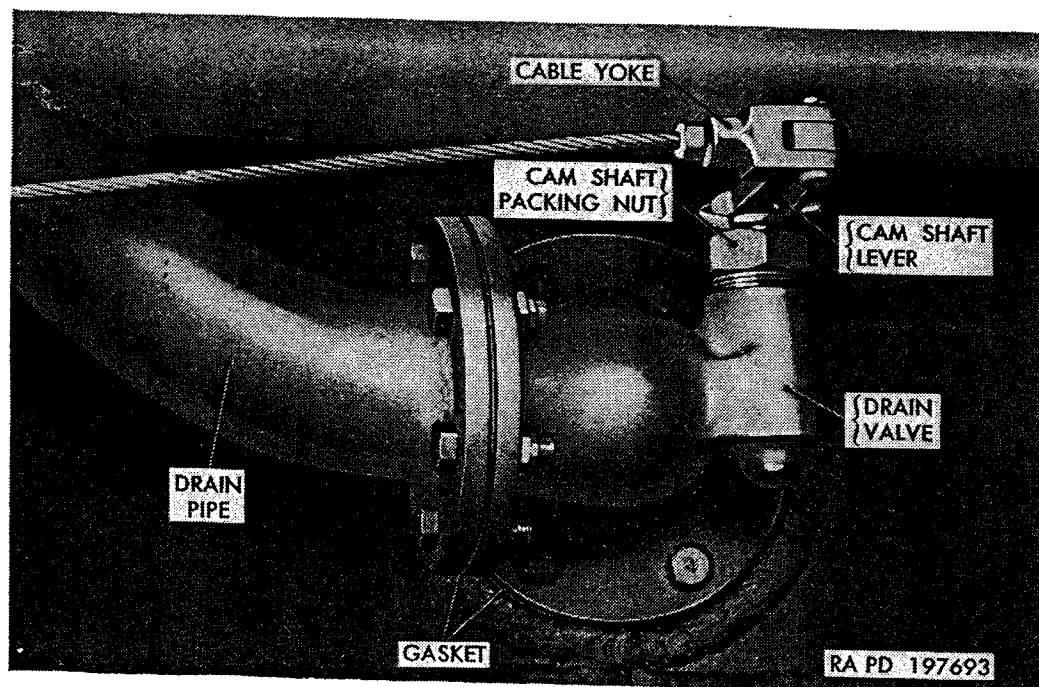

Figure 371. Drain valve and cable (rear shown).
e. Drain Valve Assembly Replacement (fig. 371). This procedure applies to either the front or rear tank compartment drain valve.
- (1) Remove three cap screws and nuts at each end of drain pipe cover and pull cover out from under rear of vehicle. Remove cotter pin and clevis pin attaching cable yoke to cam shaft lever.
- (2) Remove six nuts and cap screws attaching drain pipe flange to drain valve flange.
- (3) Remove six self-locking bolts attaching drain valve to tank sump. Break the gasket joints with a screwdriver; then re-
- (4) Make sure mating surfaces of valve body, drain pipe flange, and tank sump are clean. Coat both sides of new gaskets with gasket cement and position gaskets on drain pipe flange and on tank sump.
- (5) Place screen over valve and install eye on plunger rod. Position valve assembly at sump and drain pipe, being careful not to dislodge gaskets. Attach valve body to sump with six $\frac{3}{8}$ -16 x 1 self-locking bolts. Attach drain pipe flange to valve body with six $\frac{3}{8}$ -24 x $1\frac{1}{4}$ cap screw and $\frac{3}{8}$ -24 safety nuts. Tighten all bolts and nuts.
- (6) Connect cable yoke to cam shaft lever with clevis pin and cotter pin.
- (7) Install drain pipe cover under vehicle and secure in place at each end with three $\frac{1}{4}$ -20 x 1 cap screws and $\frac{1}{4}$ -20 safety nuts.
f. Drain Valve Control Cable Replacement (figs. 371 and 372). This procedure applies to either the front or rear tank compartment drain valve control cable. Cable to front compartment drain valve is 96 inches long, and cable to rear compartment drain valve is 36 inches long.
- (1) Remove three cap screws and nuts at each end of drain pipe cover and pull cover out from under rear of vehicle to gain access to cable connection at drain valve.
- (2) To disconnect cable at drain valve cam shaft lever, unscrew ferrule from cable yoke; then pull cable and inserts out of